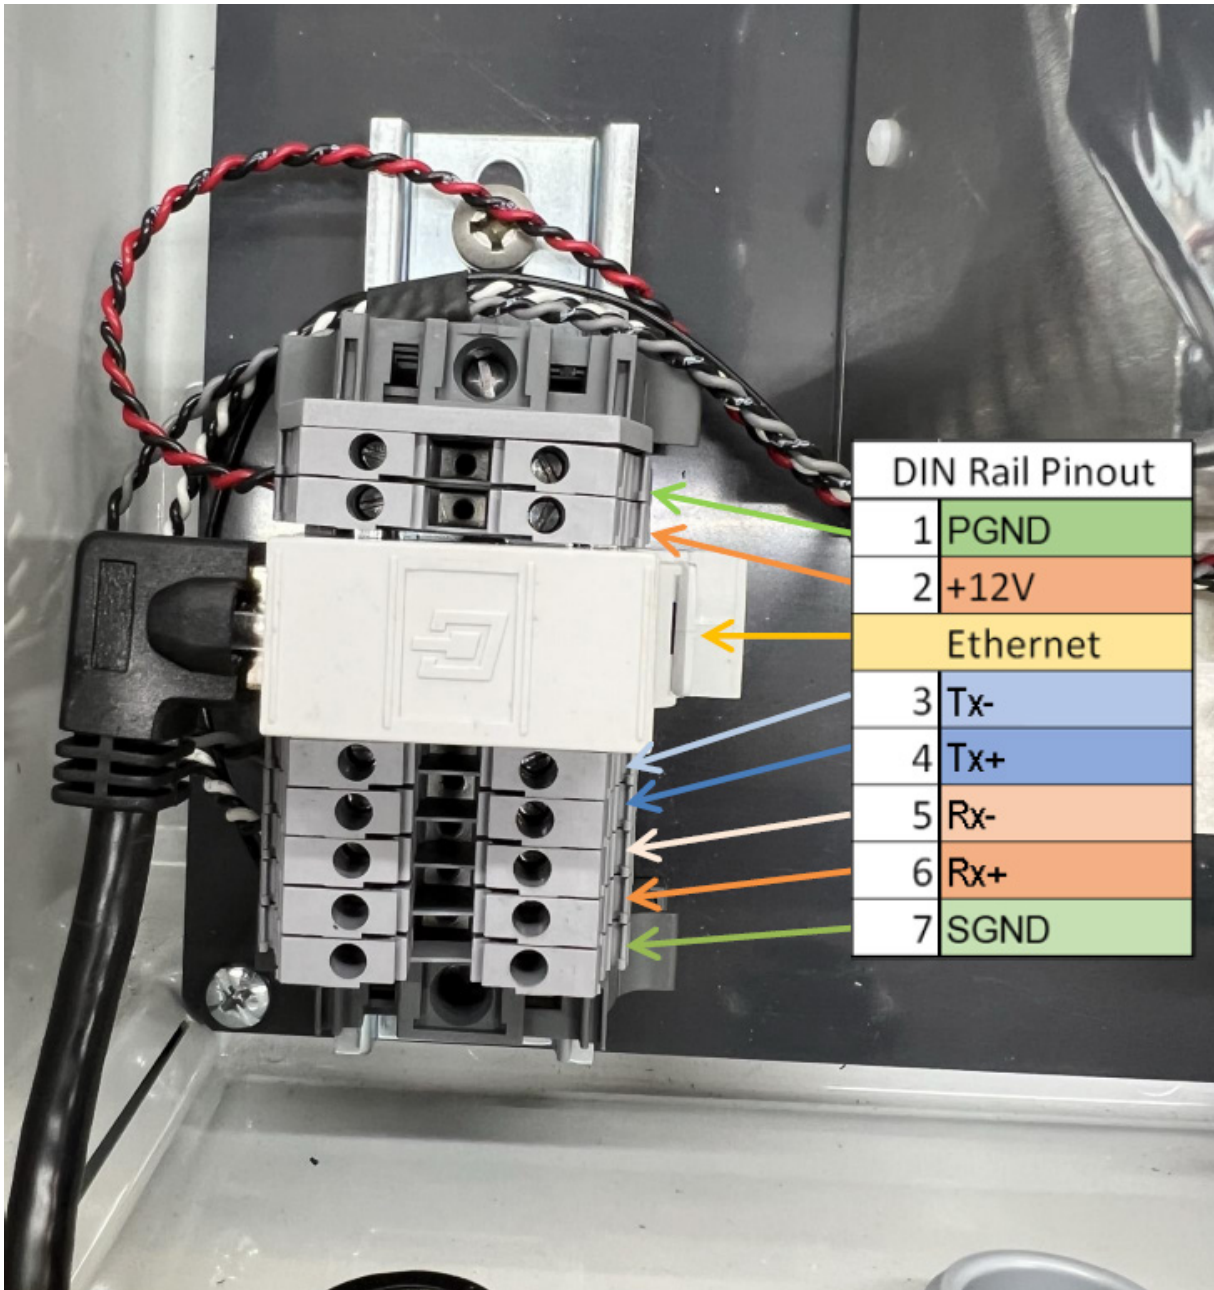

Figure 10. Terminal Block Reference Table
9. Connect the wires to the terminal blocks based on the wiring diagram in Figure 10.